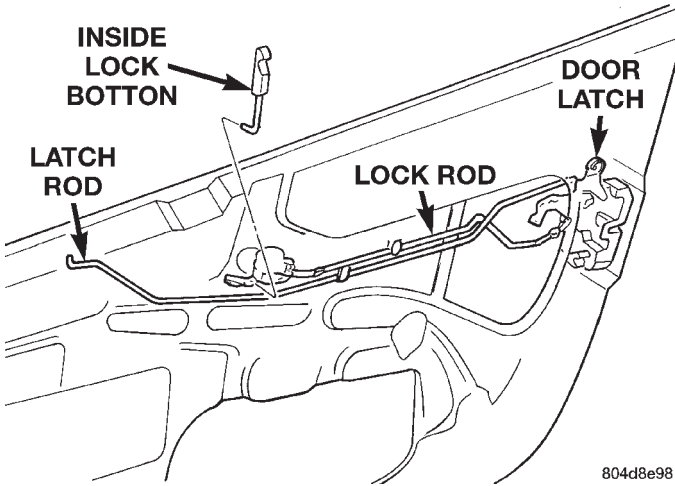

Fig. 30 Latch and Lock Rod Clips
- (1) Remove door trim panel and watershield.
- (2) Raise door glass.
- (3) Disconnect lock rod from lock button bellcrank.
- (4) Disengage lock and latch rods from clips on inner door panel (Fig. 30).